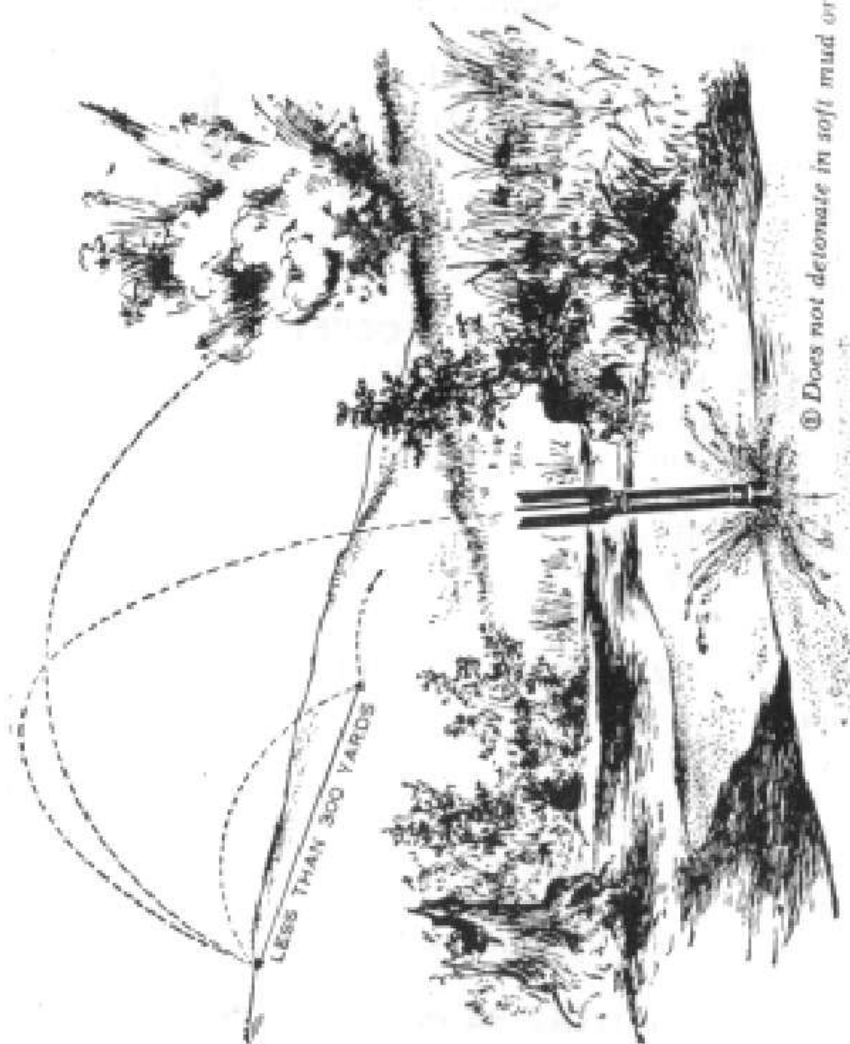

Figure 52. Limitations of rocket.
① *Armor plate.*
① *Masonry.*
② *Timbered construction.*
③ Penetration at angles at 60° from normal 100%
(3) It will penetrate brick or rock masonry, or timbered construction up to a considerable thickness.
c. Limitations (fig. 52). The weapon has a relatively low rate of fire; it has a distinctive flash on discharge, tending to disclose the position; and when fired at point targets beyond 300 yards range, it is comparatively inaccurate. Its accuracy when fired at moving targets decreases as the range increases. When fired on flat terrain at less than 300 yards range, impact with the ground ordinarily causes a ricochet and failure to detonate. At any range, impact with mud, soft sand, or water will not produce detonation.